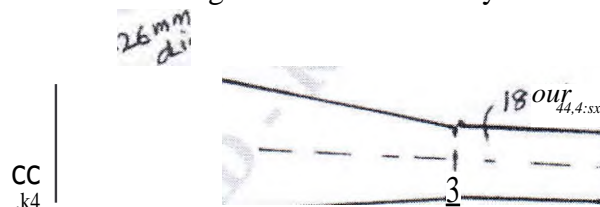

Fig. Q2 (b)
- b. Find the total elongation of the bar shown in Fig. Q2 (b) subjected to an axial tensile force of 50 kN on the bar of material having modulus of elasticity  $= 2.1 \times 10^5 \text{ N/mm}^2$ . (04 Marks)